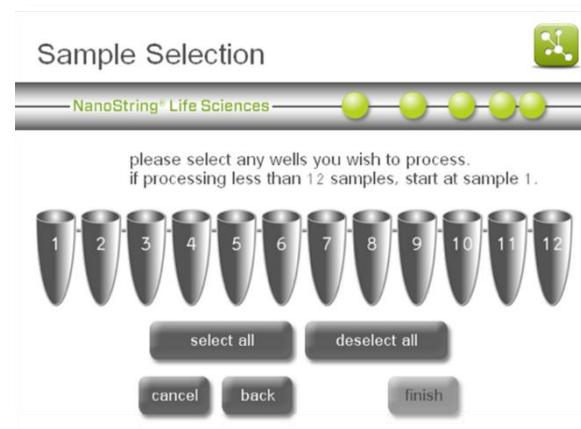

Figure 138: The ‘Sample Selection’ screen.
4. The ‘Sample Selection’ screen will appear (**Figure 138**). After selecting the samples to be processed, press **finish**.